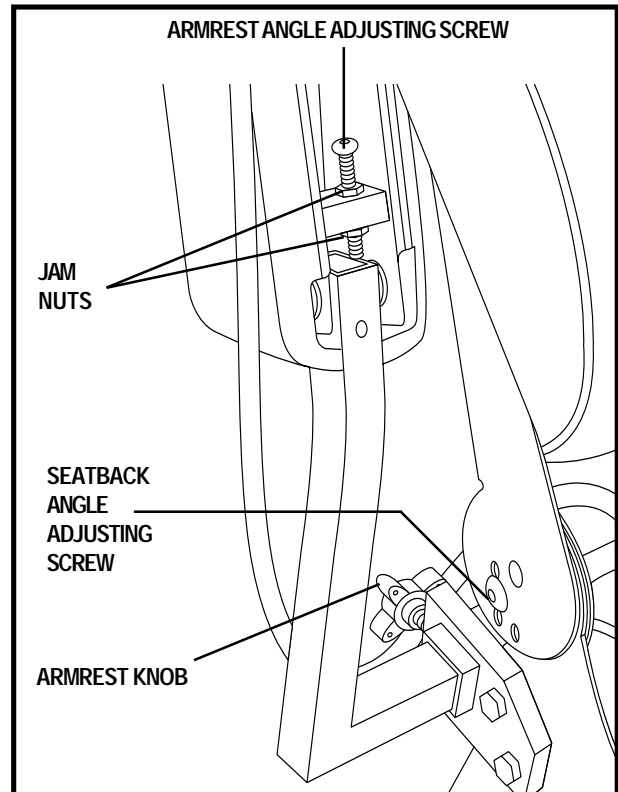

Figure 12. Seatback and Armrest Adjustments
If your power chair is equipped with an adjustable seatback, you can adjust it to four (4) different angles: 90°, 102°, 105°, or 107°. See figure 12.
1. Locate the two armrest knobs on each side of the armrest receiver bracket. See figure 12.
2. Loosen the jam nuts. See figure 12.
4. Turn the adjusting screw clockwise to raise the front of the armrest, or turn the adjusting screw counterclockwise to lower the front of the armrest. See figure 12.